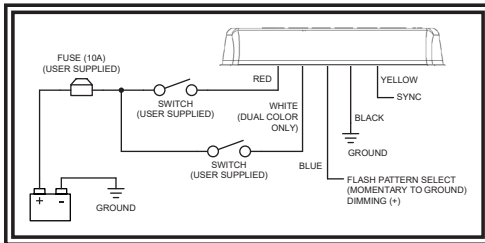

Figure 3
5. Connect the power wires as shown in the wiring section (see Figure 3).
The wiring for the permanent mount minibar is as shown in Figure 3. All wiring should be a minimum of 18AWG. The positive line must have a 10A fuse, as shown. A switch may be used to control the on/off function.